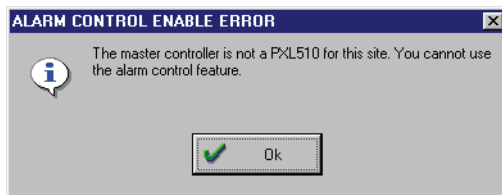

Figure 12-2: Alarm Control Enable Error
3. Click in the check box beside the Alarm Control ON field. If a PXL-510 controller has not been detected as the master controller, an error message appears (see Figure 12-2).